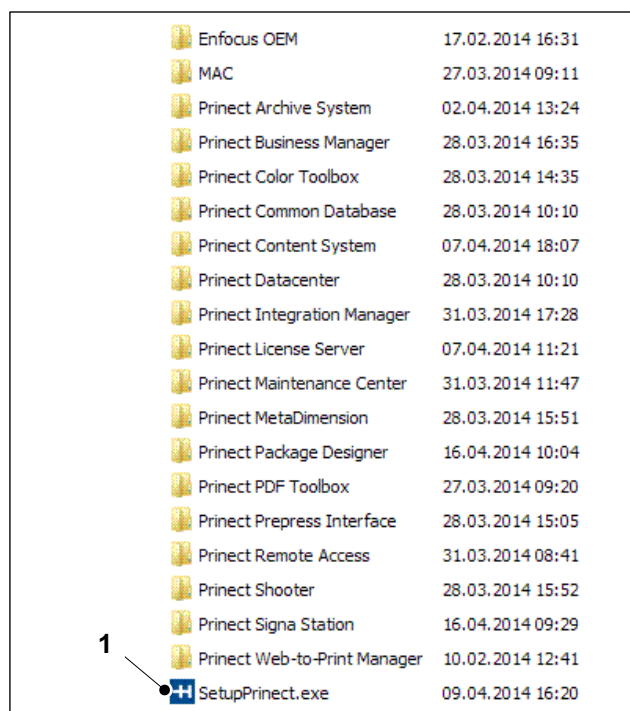
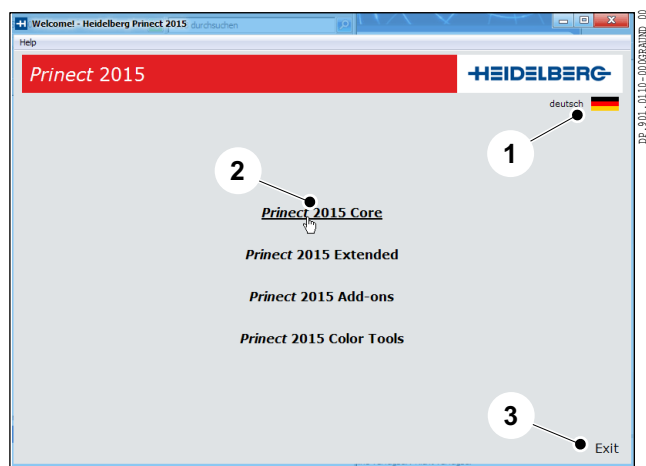

Fig. 1 Main Princt installation directory
Fig. 2 Start menu of SetupPrinct.exe
The *SetupPrinct.exe* file (Fig. 1/1) is located in the main directory on the **USB stick** for installing Princt.
1. Double-click *SetupPrinct.exe* (Fig. 1/1) to start the setup process. The start menu (Fig. 2) is shown.
The procedure described below does not modify data on your computer or start any installation routines. Setup-Princt.exe only accesses the Dipco directory. Clicking the flag icon (Fig. 2/1) changes the menu language. Clicking **Exit** (Fig. 2/3) closes the program.
2. Click the menu entry **Princt 2015 Core** (Fig. 2/2). The **Princt 2015 Core** menu is displayed.